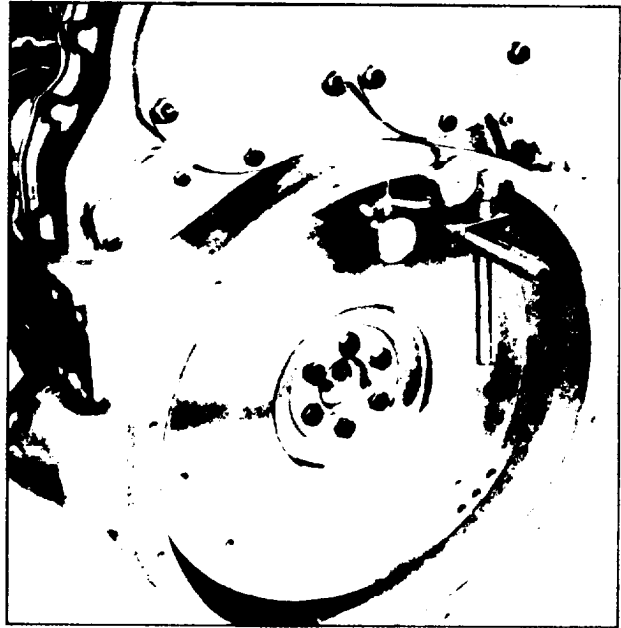

fig. 9- Checking Flywheel Housing
- a. Refer to Fig. 9 and thread the base post J 9737-3 tightly into one of the tapped holes in the flywheel. Then assemble the dial indicators on the base post.